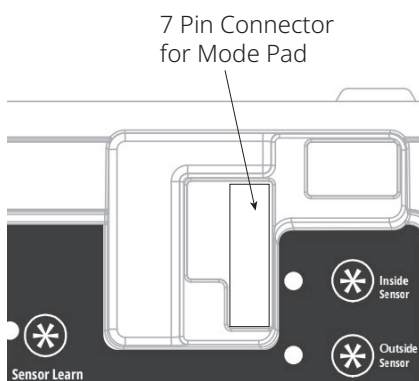

Figure 24: Connect one End of Cable to Control Panel
2. Plug one end of the cable into the 7-pin socket of the controller as shown in Fig 24.